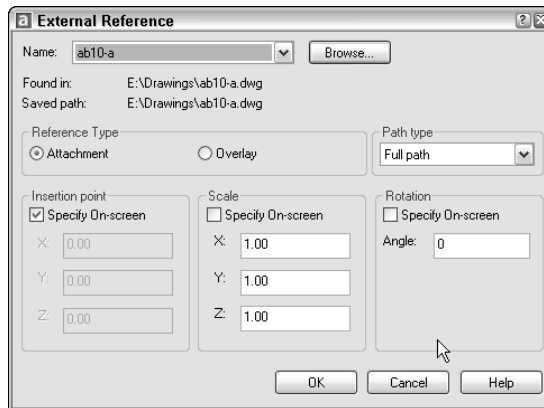

Figure 19-2: The External Reference dialog box
2. To attach an external reference, choose Attach in the Xref Manager to open the Select Reference File dialog box. Choose the file you want to attach and click Open. AutoCAD opens the External Reference dialog box, shown in Figure 19-2. The dialog box displays the file you chose along with its path (location).